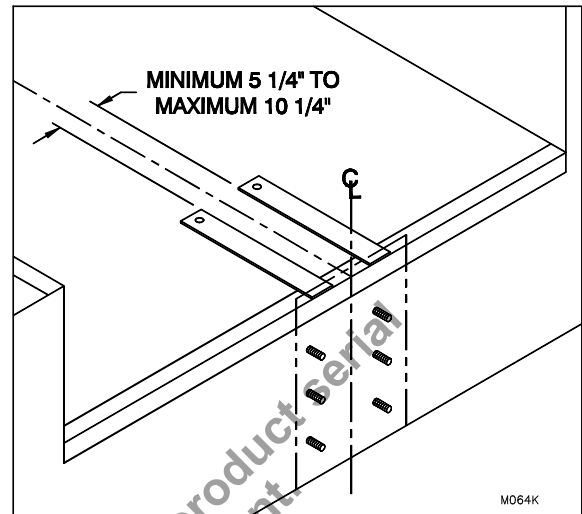

Figure 6: Horizontal Lag Plate Location
- b) The horizontal lag plates must be positioned centered behind the back plate and parallel to each other; not more than 10 1/4" apart and not less than 5 1/4" apart (This variation allows for any shims which may be present under the front angle). See "Figure 6: Horizontal Lag Plate Location" on page 12.